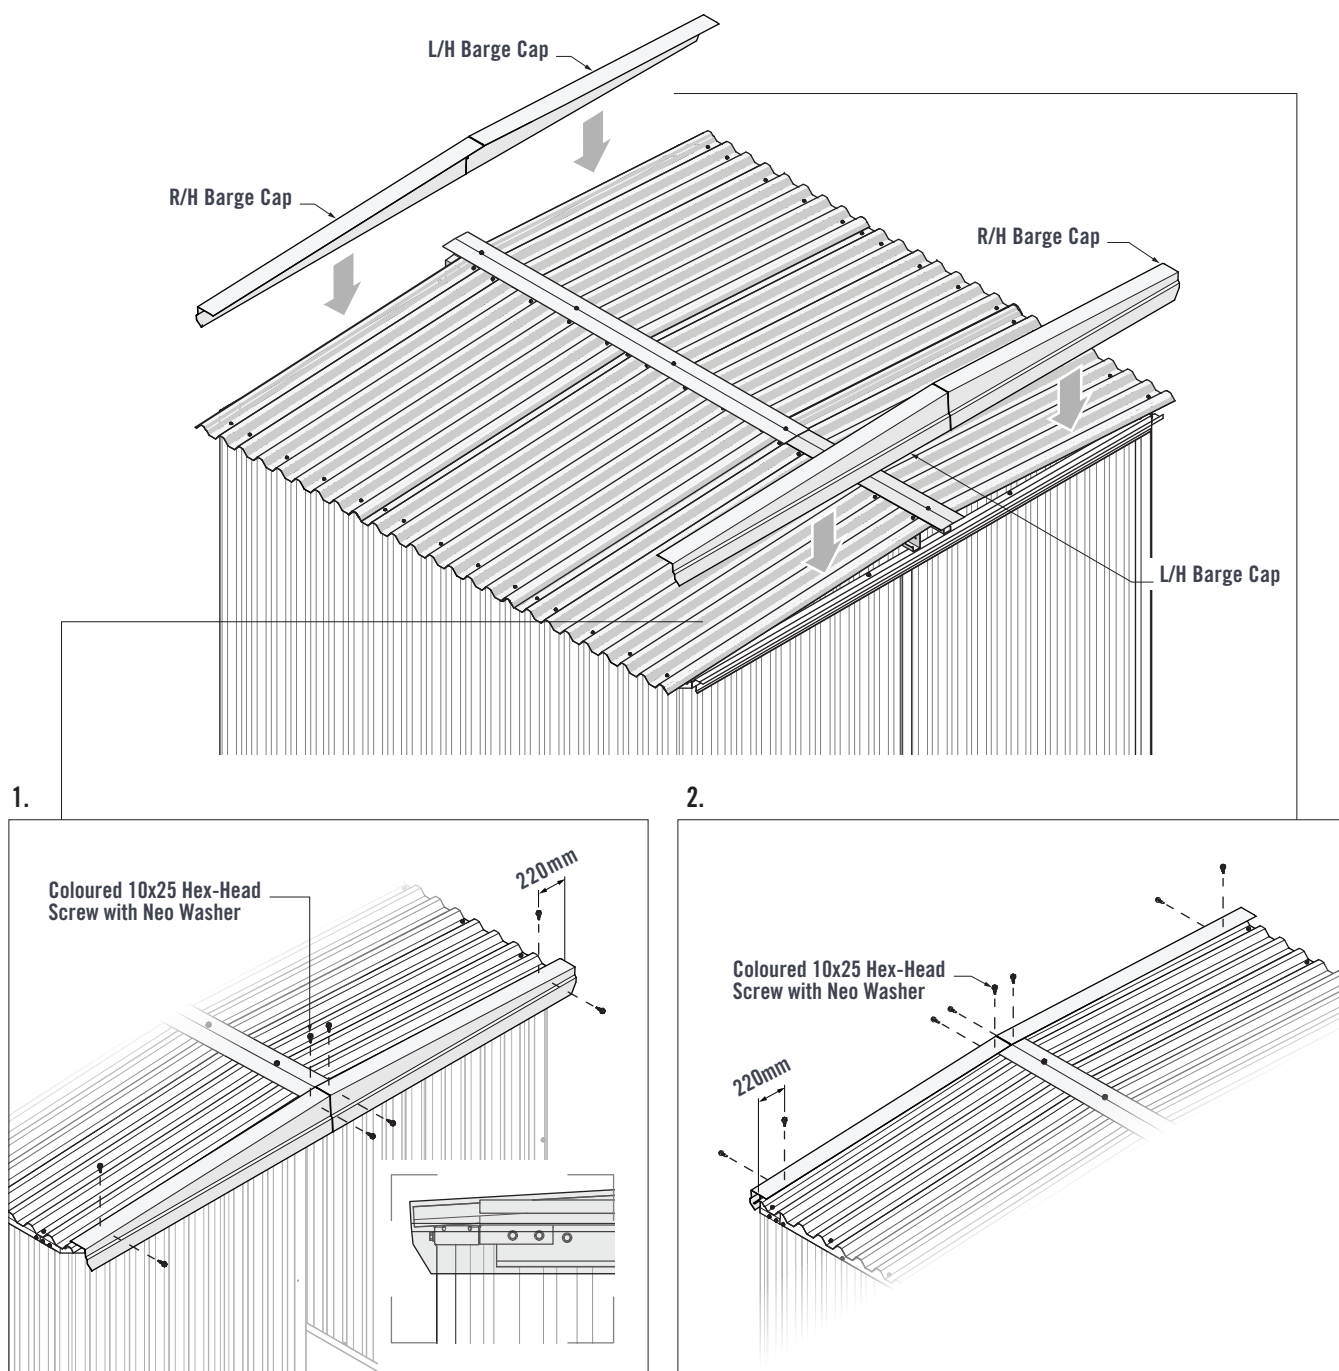

FIGURE 7.9
1. Place the L/H Barge Cap over the Roof Sheet at the front of the shed. The front face of the Barge Cap should fit up against the Barge Support. The ends of the Barge Cap Should align with the end of the roof sheet (Figure 7.9).
Fasten two coloured 10x25 Hex-Head Screws with Neo Washers through the front face of the Barge Cap into the Barge Support. Fasten two coloured 10x25 Hex-Head Screws with Neo Washers through the top of the Barge Cap and into the crests of the Roof Sheets. Install the R/H Barge Cap in the same manner on the front right side of the shed (Figure 7.9).
2. Place the remaining L/H and R/H Barge Caps over the Roof sheets at the rear of the shed. Align the ends of each Barge Cap with the ends of the Roof Sheets (Figure 7.9).
Fasten two coloured 10x25 Hex-Head Screws with Neo Washers through the front face of each Barge Cap into the rear Wall Channel. Fasten two coloured 10x25 Hex-Head Screws with Neo Washers through the top of each Barge Cap and into the crests of the Roof Sheet (Figure 7.9).